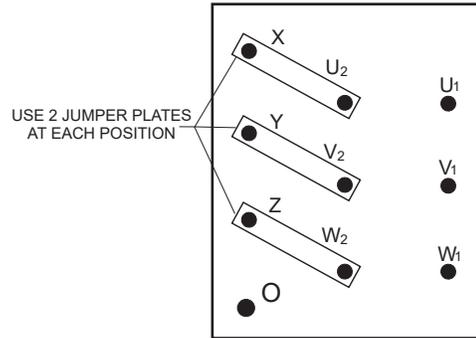

Figure 18. Voltage Change-Over Board 3-Phase 480/277-Volt Configuration
1. Jumper the **voltage change-over board** for **480-volt operation** as shown in Figure 18. This configuration uses 6 jumper plates in 3 different positions. Remember there are 2 jumper plates at every position. Every jumper plate **must be used**.
1. Make sure the **voltage change-over board** is jumpered for **480-volt operation** as shown in Figure 18.